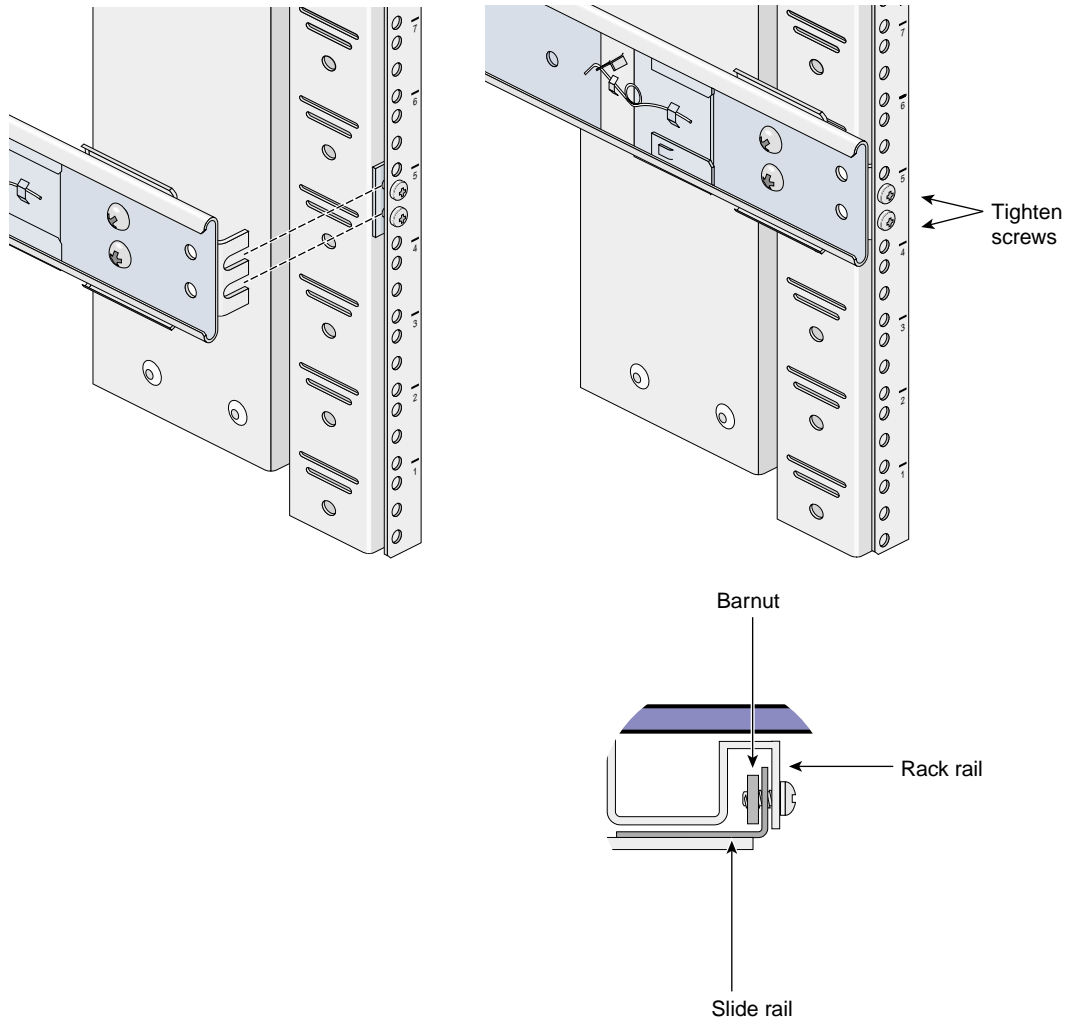

Figure 2-7 Attaching the Slide Rail to the Rack
5. Insert the front and rear brackets of one of the slide rails between the rack rails and the barnuts, as shown in Figure 2-7.